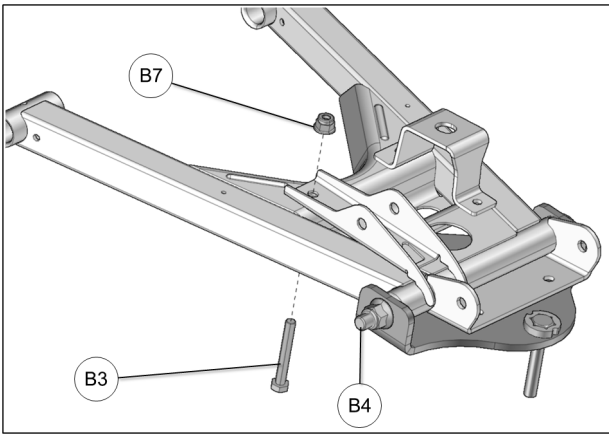

Fig. 9
- M12 bolt (**B4**) to 85 N•m of torque [63 lb•ft]. See Fig. 9